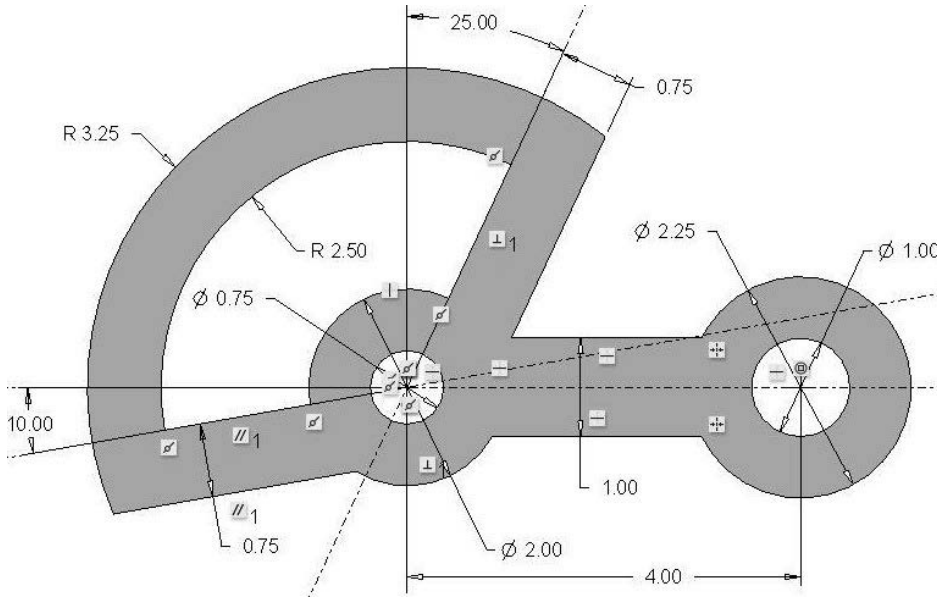

Figure 3-78 Problem 9—Adjustable Sector
3.9 Draw the "adjustable_sector" (Figure 3-78). **Design Intent**—The two holes need to be 4.00 inches apart. The angular slot needs to be 25 degrees clockwise from vertical to 10 degrees counterclockwise from horizontal. To reduce stresses round all sharp corners using a 1/4-inch round or fillet. (Filletlets and rounds are not shown in the figure.)